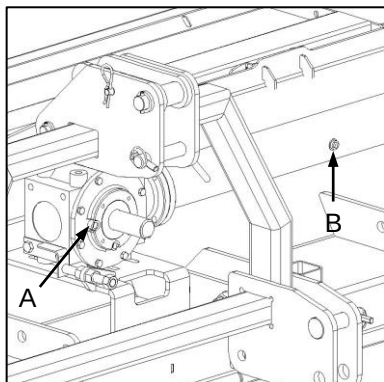

Fig. 9
- ✔ The gearbox (Fig. 9-A) and extension housing (Fig. 9-B) are equipped with filling ports. Check oil levels in both locations.
- ✔ Die ratkas (Fig. 9-A) en verlengomhulsel (Fig. 9-B) beskik oor olieulpunte. Olievlakke moet by albei punte nagegaan word.